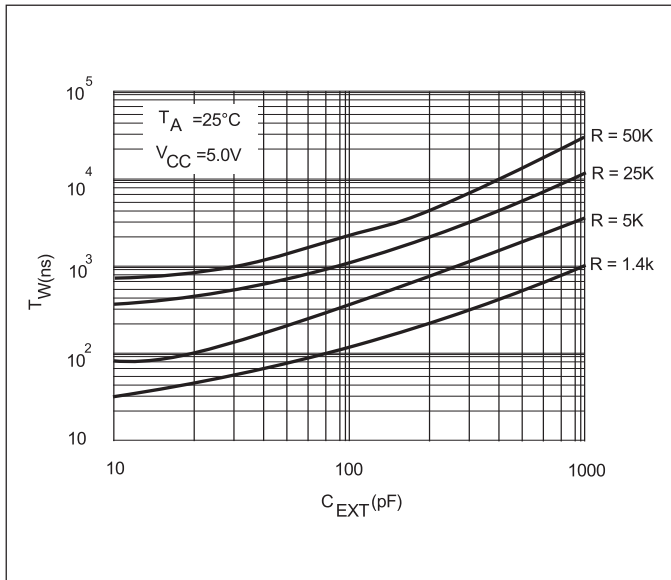

Figure 6. Typical Output Pulse Width vs. External Timing Capacitance
1. To determine the pulse width when  $C_X > 1000$  pF, refer to Figure 6.